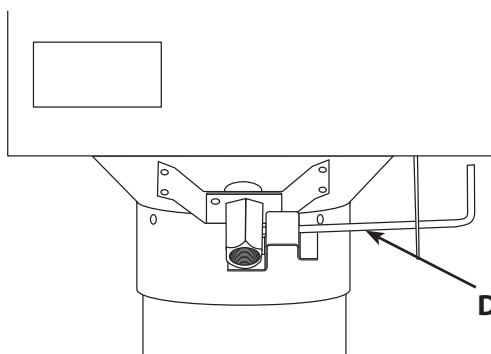

FIGURE 2
4. Check to determine that drain valve is closed. (See Figure 2).